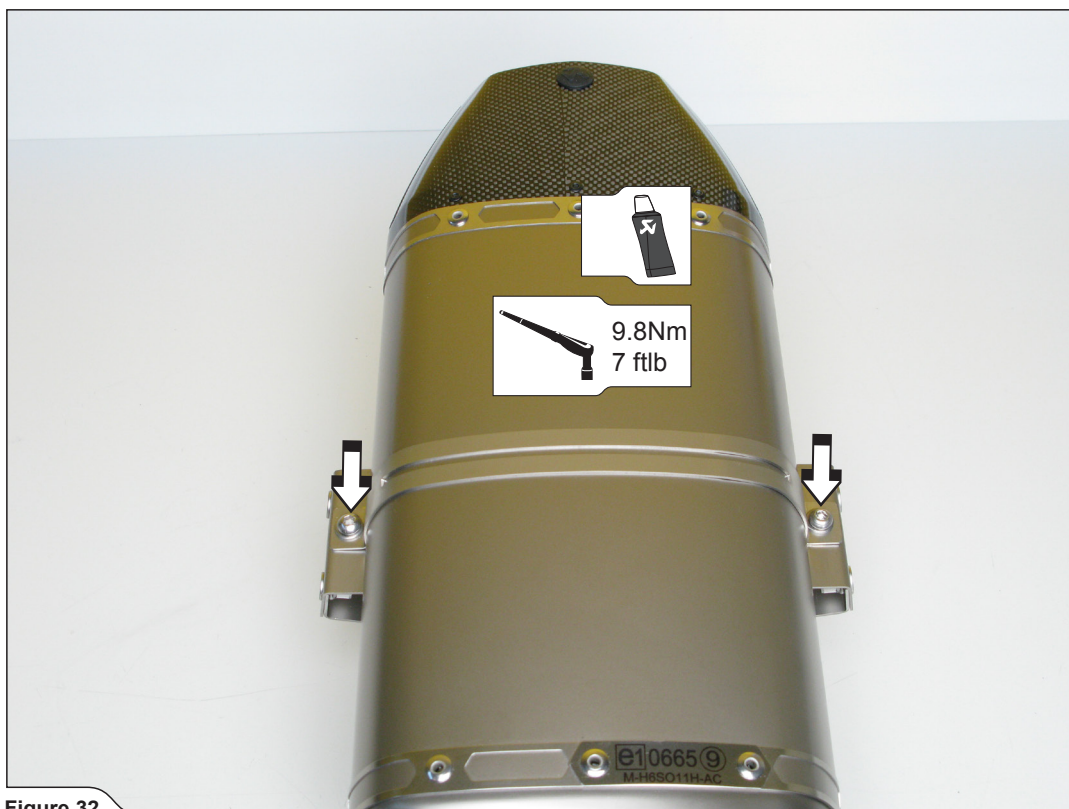

Figure 32
11. Tighten the clamp onto the muffler bracket (Figure 32).